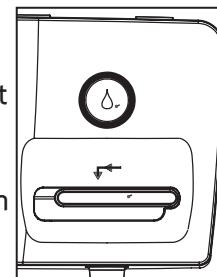

Figure 6
4. Close the lid and press the ON button on the front of the unit. (Figure 6)
- the lever to the left while pressing down to fill the cup or bowl. Press to fill the cup or bowl with heated water (Figure 6). Note: The lever will automatically lock in place once you release the lever.